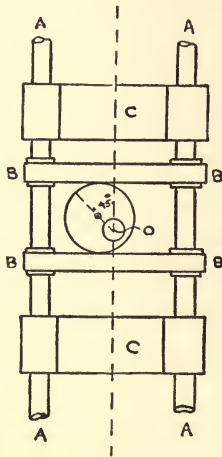

FIG. 3.
3.  $A, A$  are two parallel rods (*see* Fig. 3) connected together by two transverse bars ( $B, B$ ). This system slides in fixed guides  $C, C$ , and is operated by the eccentric turning about the fixed centre  $O$ . The throw of the eccentric is 2 inches, the radius of the circle shewn in the figure is 4 inches, and the eccentric makes one revolution per second. Take the eccentric in the position shewn.